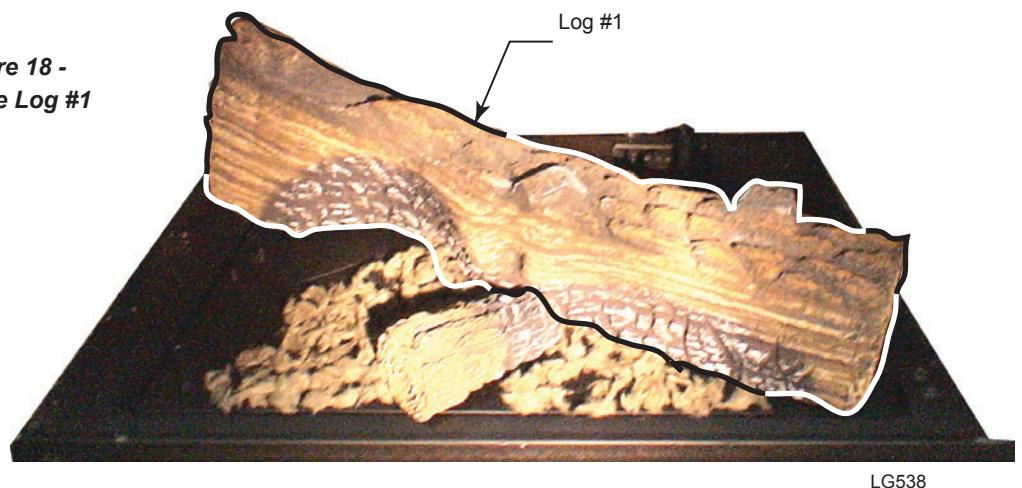

Figure 18 -
4. Place log #1 by aligning the holes to the burner pin. *Figure 18*